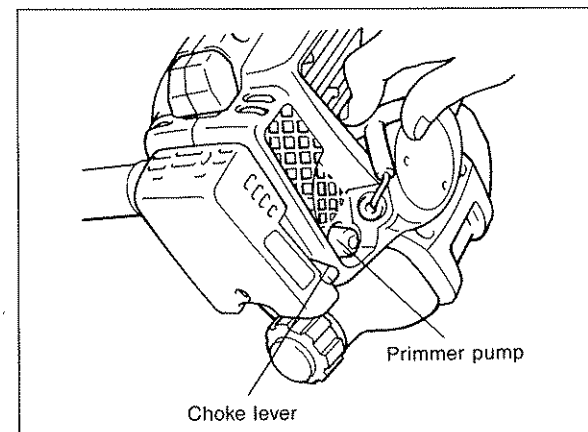

Fig. 18
- 2) Give a gentle push on the primer pump repeatedly (7 — 10 times) until fuel comes into the primer pump. (Fig. 18)
- 3) Close the choke lever fully by moving it to the  position. (Fig. 18)
- 3) Open the choke lever fully by moving it to the |♦| position. (Fig. 18)